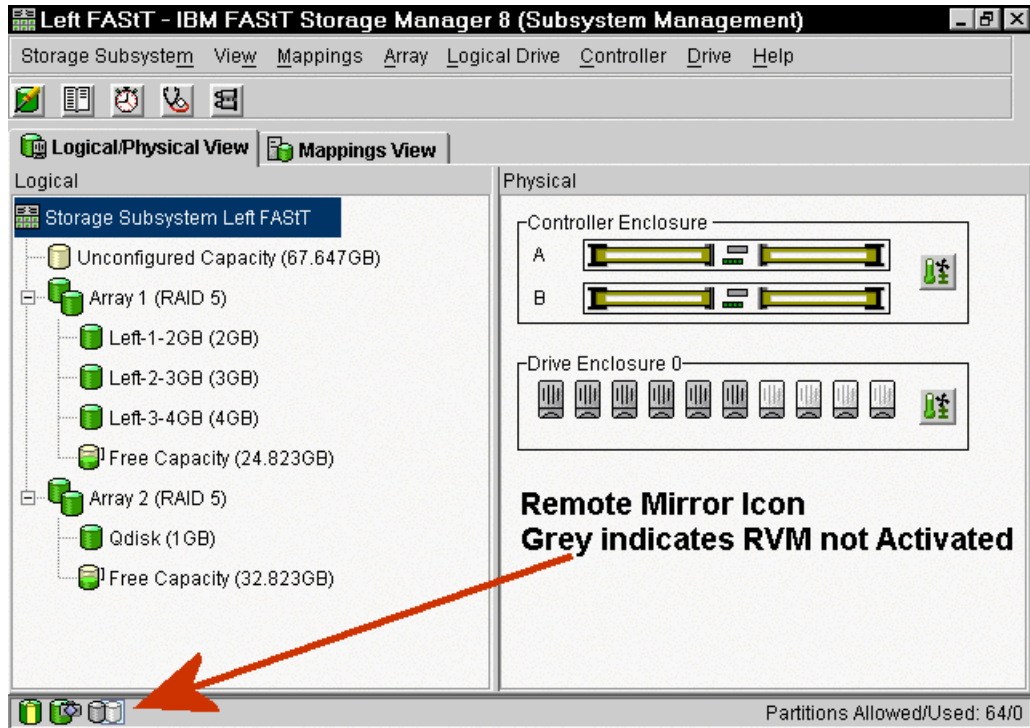

Figure 6-11 RVM not activated
12. Observe the Remote Volume Mirroring icon in the status area as shown in Figure 6-11. The icon represents the Disabled and Deactivated status of the Remote Volume Mirror option.